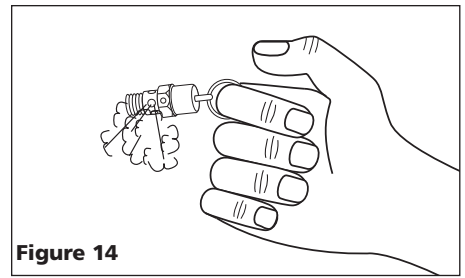

Figure 14
- b. Wearing safety glasses, pull the ring on the safety valve to release pressure from compressor tank. Protect yourself from fast-moving air being released; do not allow fast-moving air to be directed toward your face (See Figure 14).
- f. Adjust flywheel or motor pulley so that the belt runs parallel to the straightedge (See Figure 14).